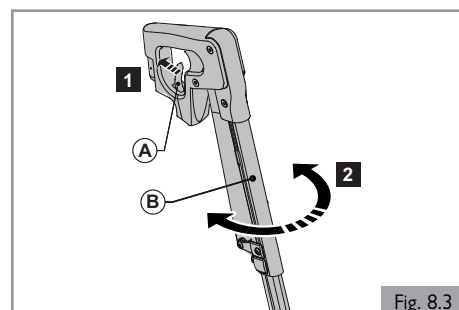

Fig. 8.3
8.2 Repose-jambes escamotables (Fig. 8.3)